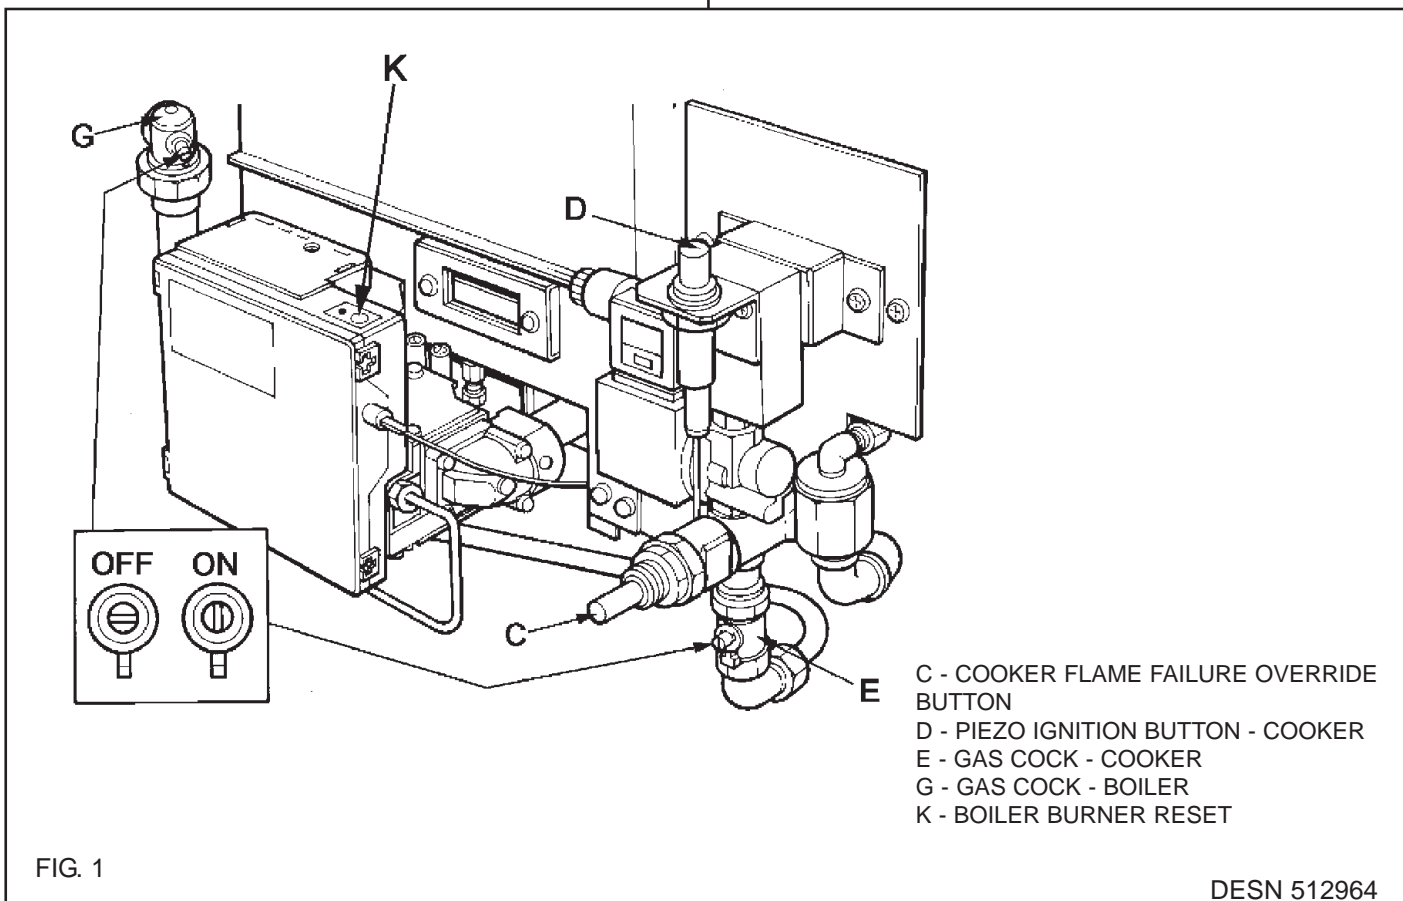

FIG. 1
This appliance is fitted with an automatic ignition unit that will light the main burner on demand. Should button (K) (see Fig. 1) be illuminated press button, this will allow the burner ignition to continue, should the burner illuminate again this will indicate a fault on the boiler burner, Contact your local Gas Safe Registered engineer to correct the fault.
### Cooker (See Fig. 1)